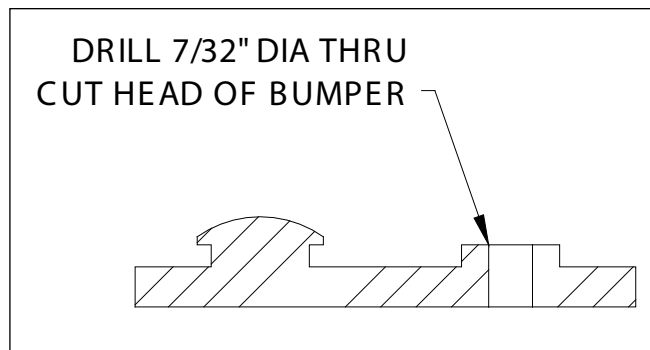

Figure 2
- D. Drill a 7/32" diameter hole through the cut head of each bumper. See Figure 2.